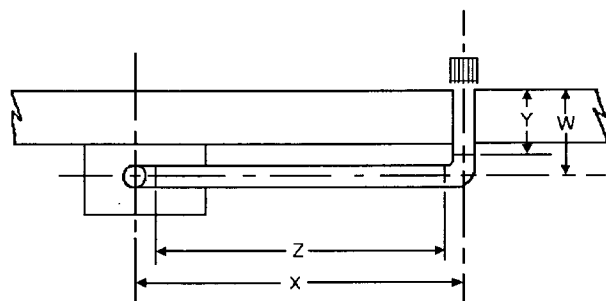

Fig.17
- 5.5.24** Measure carefully the distance between the centre of the flue bend on the boiler to the centre of the hole through the wall (dimension X fig. 17).
- 5.5.31 Ensure that the flue pipe runs parallel to the wall then carefully measure the distance from the outside face of the wall to the centre of the extra bend (dimension W Fig. 17).